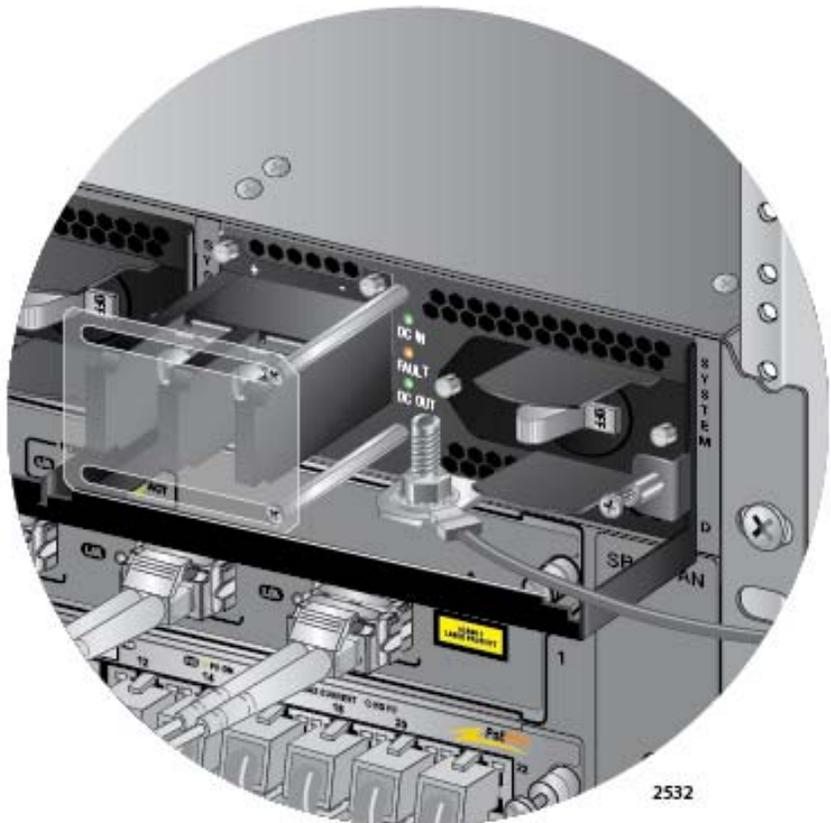

Figure 122. On/Off Switch On the AT-SBxPWRSYS1 DC Power Supply
3. Verify that the On/Off switch on the AT-SBxPWRSYS1 DC Power Supply is in the Off position. Refer to Figure 122.
13. Turn the On/Off switch on the power supply to the On position. See Figure 122 on page 183.
3. Verify that the On/Off switch on the AT-SBxPWRSYS1 DC Power Supply is in the Off position. Refer to Figure 122 on page 183.
9. Before attaching the power wires from the power supply to the circuit breaker in the wiring closet, check that the circuit breaker is off. Refer to Figure 122 on page 183.
12. Turn the On/Off switch on the power supply to the On position. See Figure 122 on page 183.
2. Verify that the On/Off switch on the AT-SBxPWRSYS1 DC Power Supply is on the Off position. Refer to Figure 122 on page 183.